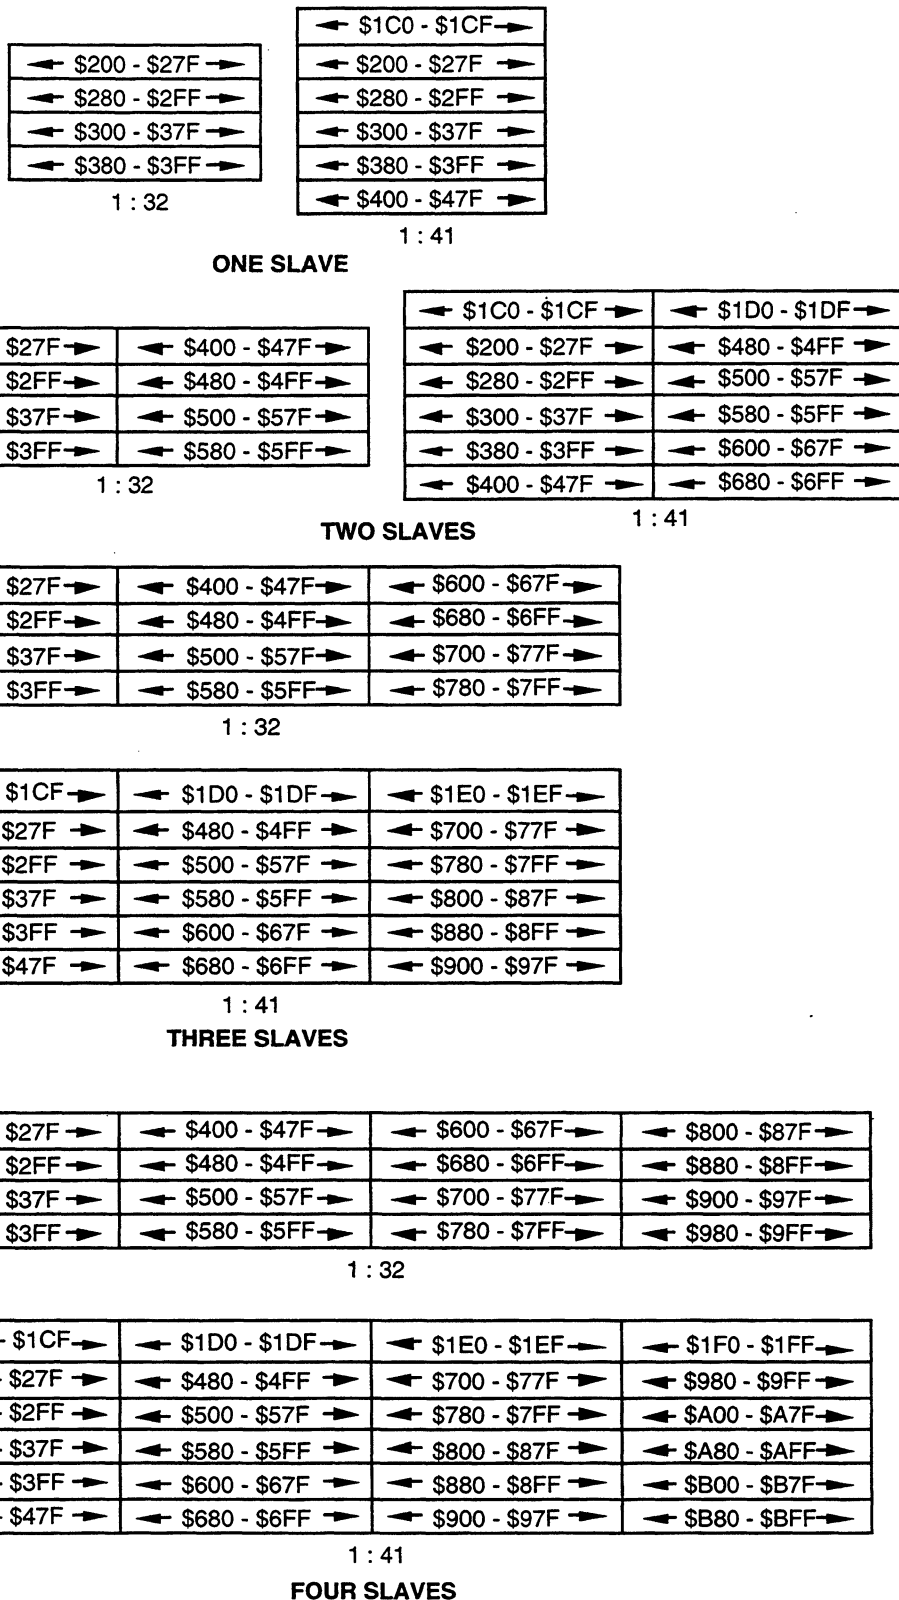

FIG. 6-3 Display RAM configuration at 1:32 and 1:41 multiplex ratio
**MS· BIT 0** When this bit is cleared, LCD driver is 1:32 multiplex, setting this bit changes the LCD driver to 1:41 multiplex. For detail description of display RAM configuration and slave LCD driver, refer to Fig 6-3 & MC141511 Data Sheet. This bit is cleared during power on or external reset.